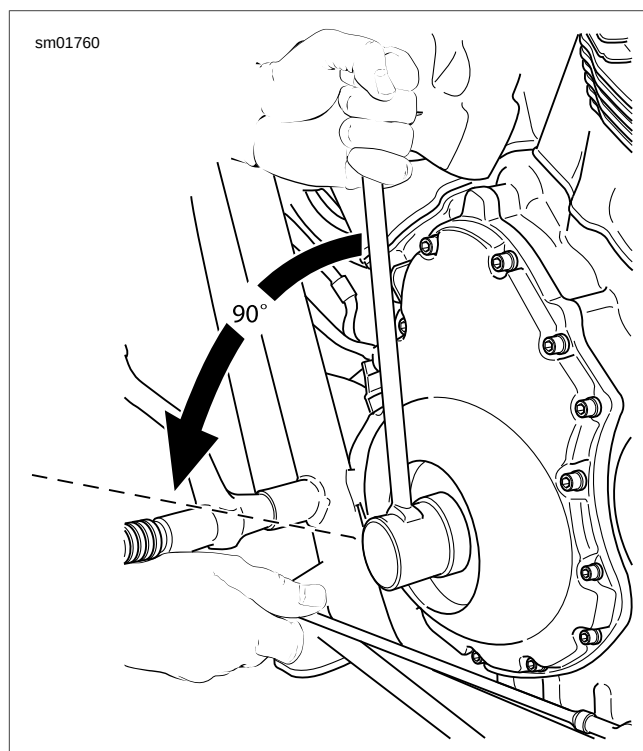

Figure 1-86. Positioning Piston
- a. See Figure 1-86. Install CRANKSHAFT ROTATING WRENCH (Part No. HD-45314).